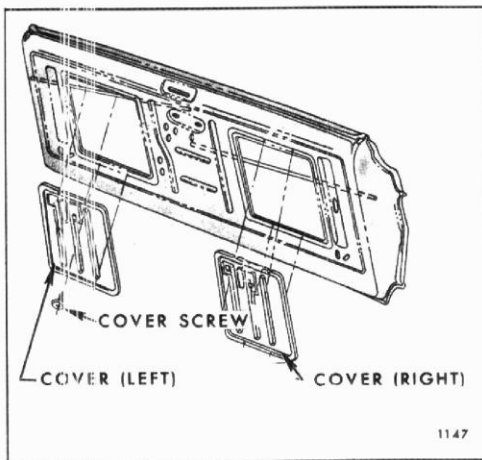

Fig. 9-45-Tail Gate Inner Panel Access Hole Cover
2. Remove screws securing right and left access hole covers to tail gate inner panel and remove covers (See Fig. 9-45).